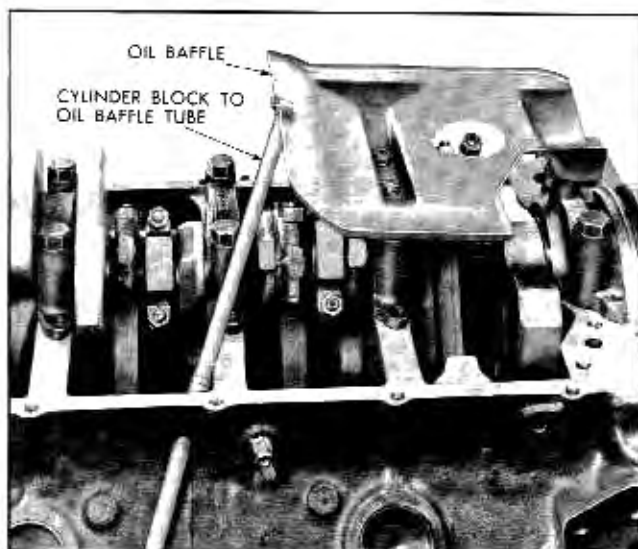

Fig. 6-75 Proper Assembly of Oil Baffle and Tube
16. Position cylinder-block-to-oil-baffle tube and engine oil baffle on engine, install attaching screws with lockwashers and tighten securely (Fig. 6-75).